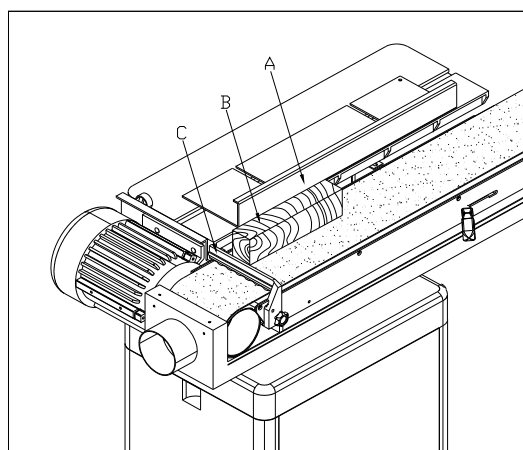

Fig: 8
- 1.MOUNT LOCATING PLATE(A) FOR FLAT SANDING.
- 2.ADJUST KNOB TO CLAMP BRACKET(C) FOR SECURING JOB. SEE FIG. 8
- 3.ANGLE LOCK KNOB(A) TO SET ANGLE AT CERTAIN